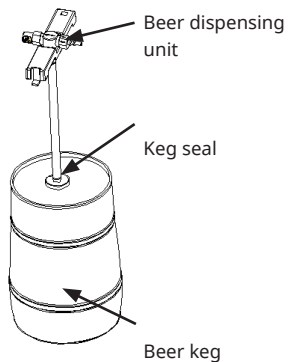

Figure 5
2. Uprightly direct the piercing pin against the sealant on the upper center of the keg (maybe you need to tear off the marking ring or change a proper sealant), press the piercing pin/keg lifter to poke the sealant and then push the piercing pin all immerse in the keg quickly. To assemble the tap mechanism until you hear a "Ka" sound that will indicate the tap mechanism fixes on the beer keg (shown as figure 5).